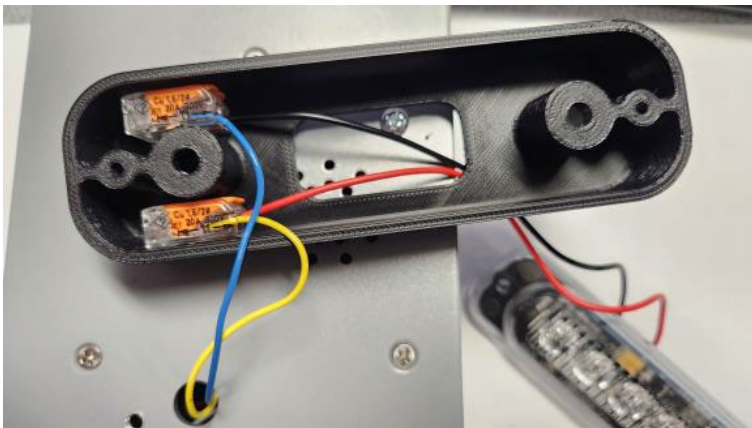

Figure 10: Wire splice connectors properly secured
10. Lodge both connectors firmly into the 2 corners on either end of TWS light adapter. Figure 10.